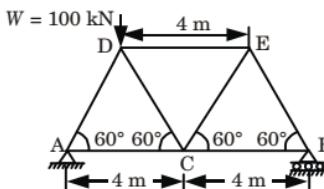

Fig. 5.
- b.** Fig. 5 shows a pin-jointed truss loaded with a single load  $W$  is 100 kN. If the area of cross-section of all members shown in Fig. 5 is 1000 mm $^2$ , what is the vertical deflection of point C? Take  $E = 200$  kN/mm $^2$  for all members.